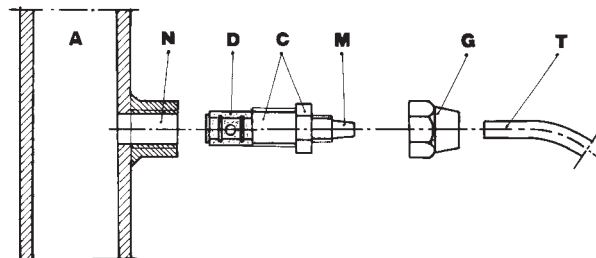

Fig. 9
- g. - Select the most appropriate injection point on a pipe of the plant to be treated and there fit a 3/8" female steel gas thread connector (similar to BSPm). This connector is not supplied with the pump. Screw the injection valve to the gas connector, inserting a gasket as shown in Fig. 9. Then connect the discharge hose to the conical connector on the injection valve and fix it with the supplied tube nut G. The injection valve also acts as no return valve by means of a cylinder sleeve (elastomer, standard supplied in Viton®).
3.1 - INJECTION VALVE INSTALLATION DIAGRAM Fig. 9